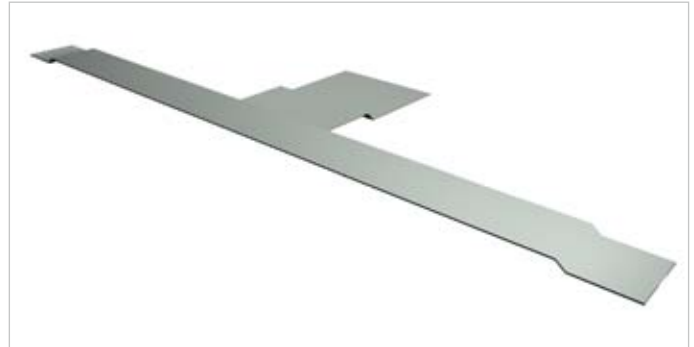

Fig. 15: Pre-canted foil composite sheet, top view
- pre-canted foil composite sheet (FCS, see figure 15)